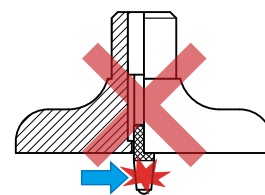

Fig. 4
1. Do not move the contact point rapidly nor apply force in the transverse direction, otherwise operation and accuracy may be adversely affected. (**Fig. 4**)